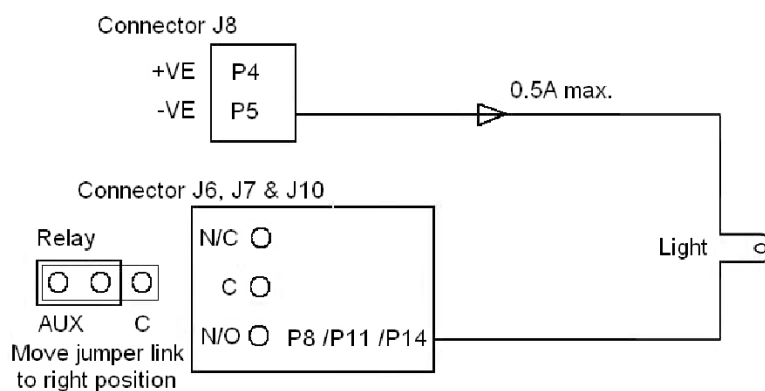

Figure 3: Connecting strobe/light
- When using a powered relay Common (refer to Figure 3 on page 14), the total current consumption of all relays and any external battery connections is 0.5 A.